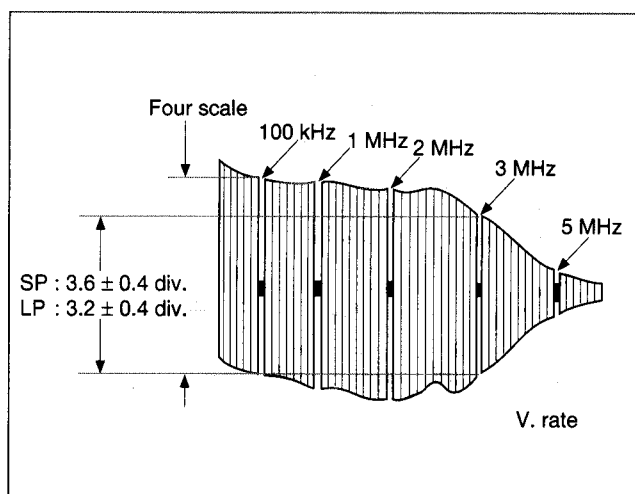

Fig. 3-3-7 S-VHS VIDEO EQ
- (1) Connect an oscilloscope to Y OUT TERMINAL and TP111 (negative slope).
- (2) Record a video sweep signal in the S-VHS SP mode, then play it back.
- (3) Set the EVR mode by pressing the "K" button of the pre-setting unit.
- (4) Set "A : 3" by pressing 3 button of the remote controller.
- (5) When assuming the 100 KHz sweep signal marker on the bigger channel is four scales on the oscilloscope, adjust the CH "+" or "-" buttons on the front panel or the Digit-key remote controller so that the 3 MHz is set at 3.6 ± 0.4 scale (-1 ± 1.0 dB) while observing Y OUT of the S output. (See Fig. 3-3-7.)
- (6) Set the normal VCR mode by pressing the "K" button of the presetting unit again so adjustment data is memorized.
- (7) Carry out the step (3) and (4) in the S-VHS LP mode.
- (8) When assuming the 100 kHz sweep signal marker on the bigger channel is four scales on the oscilloscope, adjust the CH "+" or "-" buttons on the front panel or the Digit-key remote controller so that the 3 MHz is set at 3.2 ± 0.4 scale (-2 ± 1.0 dB) while observing Y OUT of the S output. (See Fig. 3-3-7.)